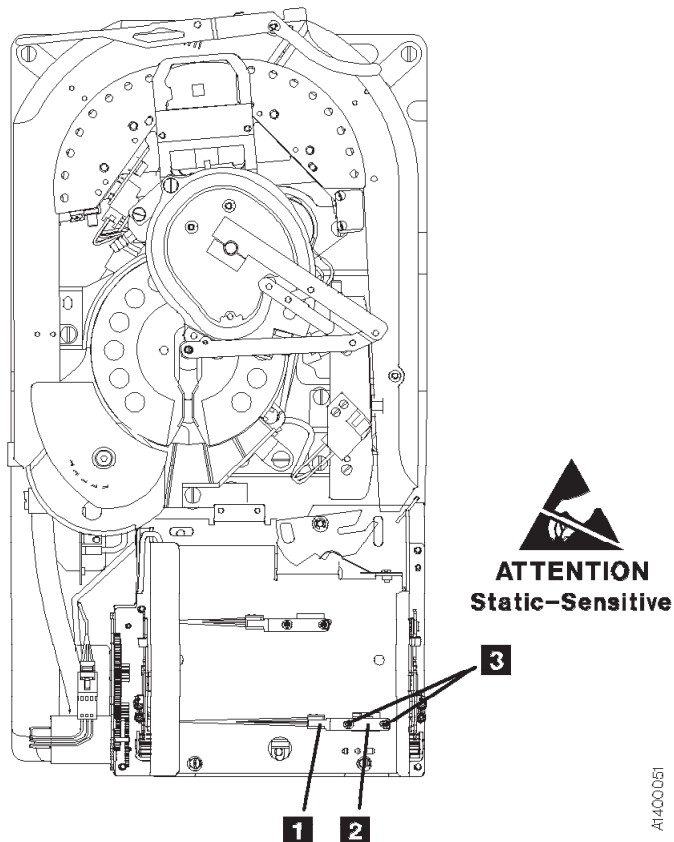

Figure 10-67. Door-Open Sensor
3. See Figure 10-67. Remove two screws **3** holding door-open sensor **2**.